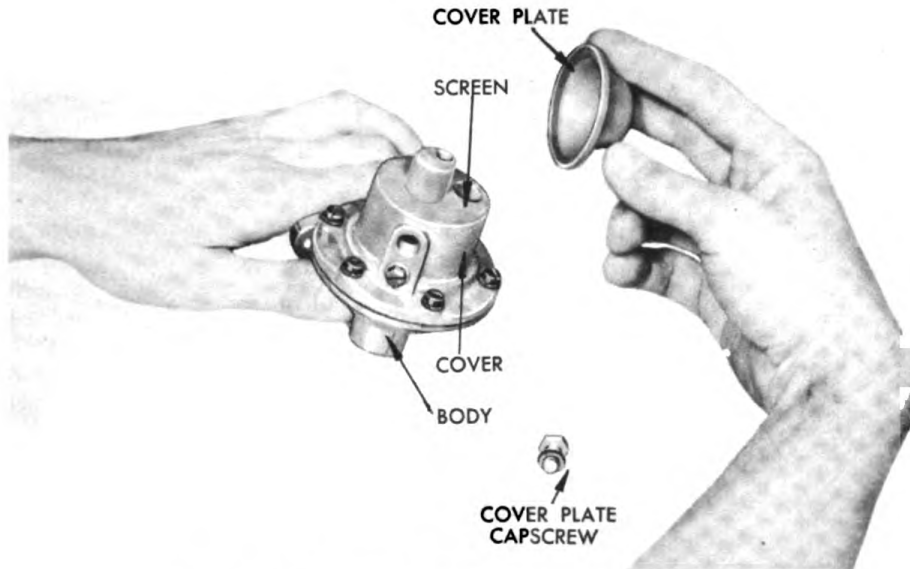

Figure 295. Removing Fuel Pump Top Cover.
- b. Remove top cover plate capscrew and gasket, remove cover plate and gasket. See figure 295.
- a. Check top cover and pump body for cracks and breakage. See figure 295. Inspect for diaphragm flange warpage by testing on a smooth flat surface. Examine all threaded holes for stripped or crossed threads. Broken, damaged or severely warped castings must be replaced.